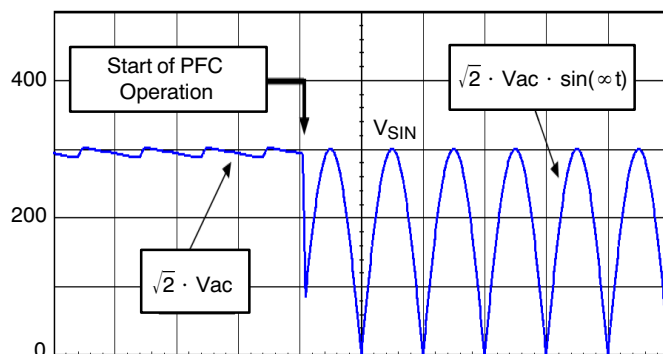

Figure 69. Typical Input Voltage of a PFC Stage
i.e., about 64% of the previous value. Therefore, the same line magnitude leads to a  $V_{Pin2}$  voltage that is 36% lower when the PFC is working than when it is off (refer to Figure 69). That is why the NCP1605 features a 50% hysteresis ( $V_{BO L} = 50\% V_{BO H}$ ).